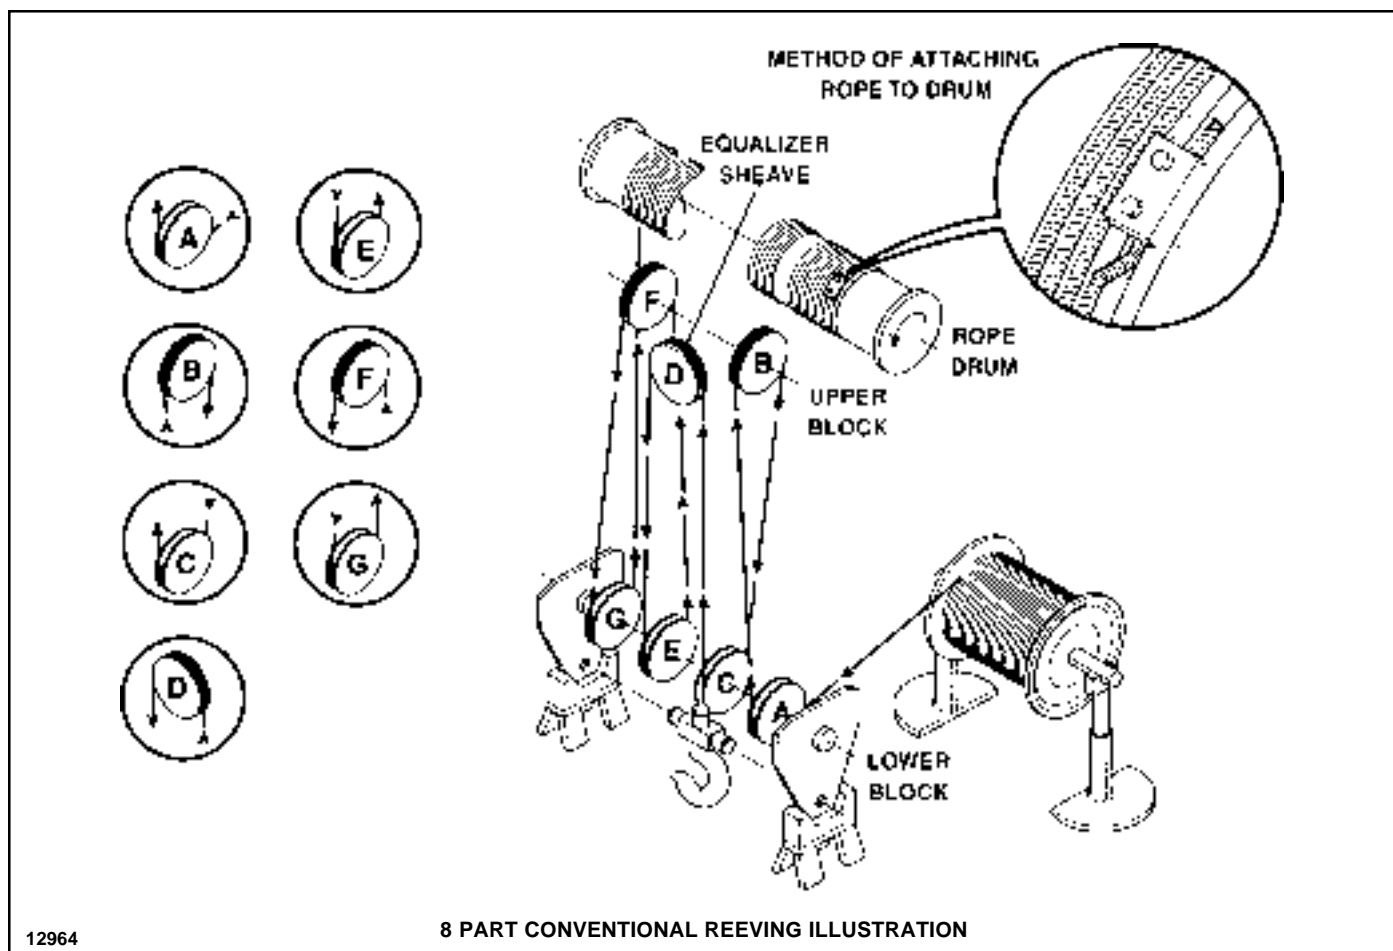

Figure 2-2. Conventional Reeving.
e. The following reeving instructions are based upon 8 parts of rope. Figure 2-2 illustrates CONVENTIONAL reeving. As shown in the Figure, provide a support stand for the lower block, and position block directly under the trolley. Provide a support for the reel, positioned as shown, which will allow reel to turn freely. (If rope is furnished in a coil, provide similar support to allow coil to rotate as rope is removed.)
f. As shown in Figure 2-2, thread free end of rope through lead (drum) side of the outside sheave of the lower block. From there pull rope up to upper block sheave. Pass free end of rope over upper sheave and then down and under the inside sheave in the lower block. Continue to pull rope back up the upper block and pass over the equalizer sheave. Now pull rope down from equalizer and pass under the inside lower block sheave, and back up to the upper block sheave. Pass the rope over the top of upper sheave, back down and under the outside sheave of the lower block, and then up to the drum. Anchor rope as shown in Figure 2-2, spin off remaining rope on the reel, and bring free end of rope to the drum and anchor.